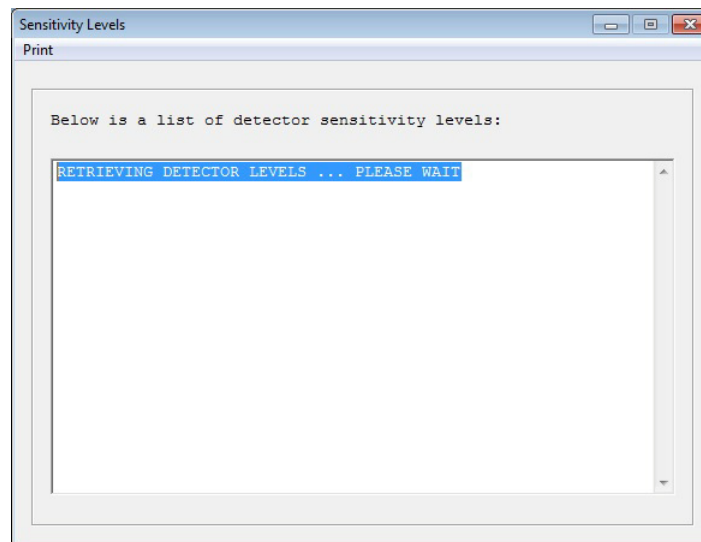
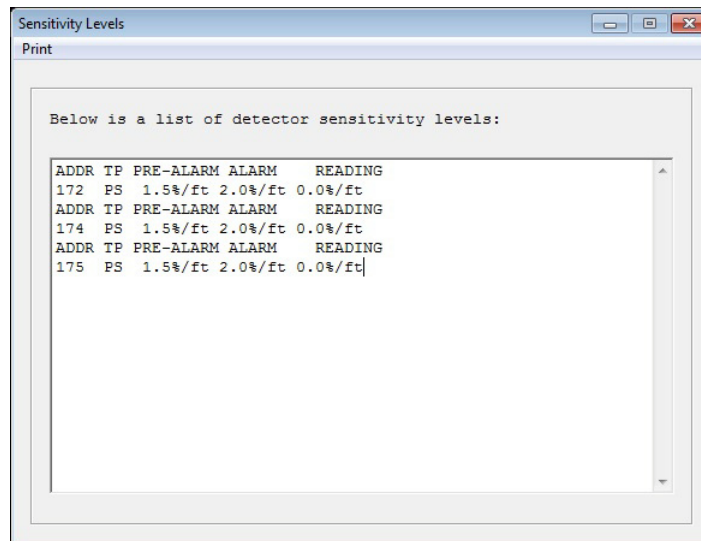

Figure 4-17. Retrieving Sensitivity Levels
Figure 4-18. Displayed Sensitivity Levels
4. Select **<OK>**. The following 'Sensitivity Levels' dialog is displayed. In response, the Sensitivity Levels' dialog announcing the retrieval of the sensitivity levels (Figure 4-17) is displayed. After the query has finished, the sensitivity levels (Figure 4-18) are displayed. Within the 'Sensitivity Levels' screen, there are two menu options: **Save As** and **Print**.